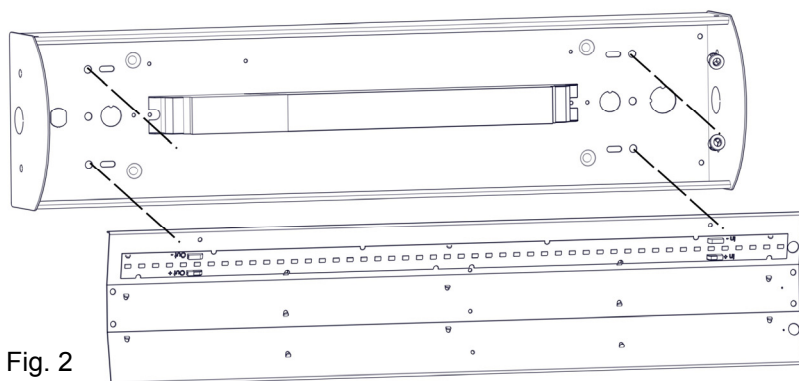

Fig. 2
4. Remove fasteners from LED tray to housing and hang tray with integrated tether cable provided for ease of installation. Fig.2
7. Mount the luminaire to the mounting surface using two (2) screws at each end or appropriate hardware (by others). If no joists are present, use toggle bolts (by others).